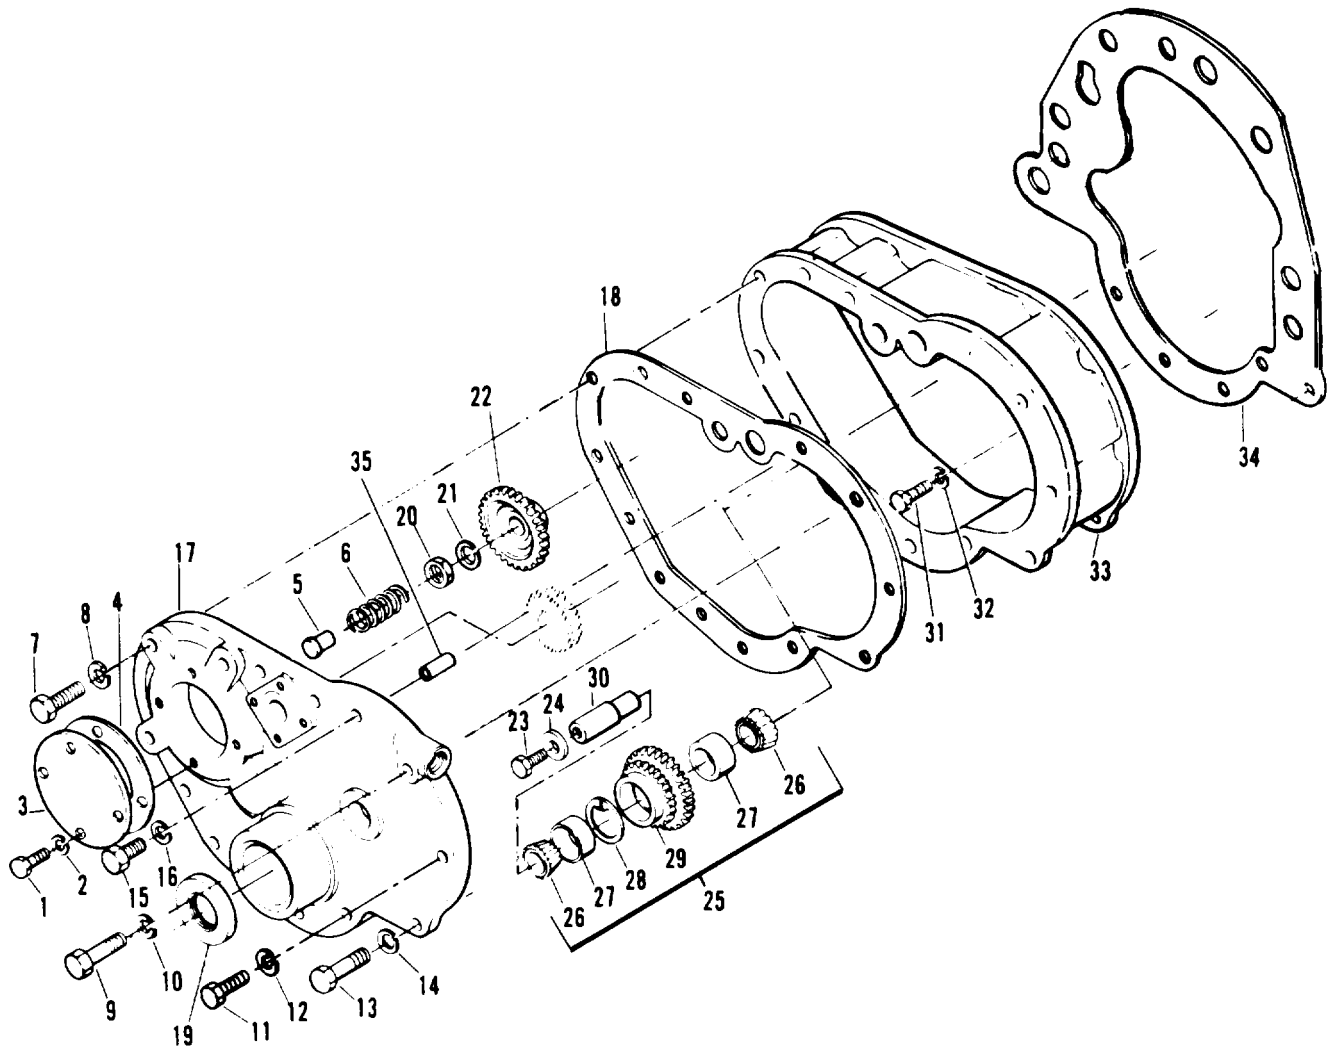

Figure 3-44. Timing Gears and Cover, Exploded View
- (1) Remove the hydraulic pump assembly (paragraph 3-41).
- (2) Remove the fuel injector nozzle from No. 1 cylinder.
- (3) Turn the engine over until the 20 degree before top dead center (BDC) mark on the engine flywheel is aligned with the timing mark on the flywheel housing and No. 1 cylinder is on compression stroke.
- (4) Remove the front engine support (paragraph 3-49).
- (5) Remove screws (1, figure 3-44) and lockwashers (2) to remove fuel pump thrust plate (3), gasket (4), thrust button (5) and spring (6). Discard gasket.
- (6) Remove screws (7, 9, 11, and 13), screws (15), and lockwashers (8, 10, 12, 14, and 16) to remove timing gear cover (17) and gasket (18). Discard gasket.
- (7) Press seal (19) from cover and discard.
- (8) Remove nut (20) and lockwasher (21) to remove fuel pump drive gear (22).
- (9) Remove screw (23) and washer (34) to remove idler assembly (25).
- (10) If inspection indicates that idler bearings must be replaced, disassemble idler as follows:
- (a) Remove bearings (26) and press races (27) from gear (29).
- (1) Using new gasket, install housing (33) and secure with lockwashers (32) and screws (31).
- (2) If shaft (30) was removed, press replacement into timing gear housing.
- (3) If bearings were replaced, assemble idler assembly as follows:
- (a) Install ring (28) into gear (29).
- (b) Press races (27) into gear until they seat against ring.
- (c) Install bearings (26).
- (4) Check that 20 degree (BDC) mark on flywheel is still aligned with timing mark on flywheel housing.
- (5) Install idler assembly and secure with washer (24) and screw (23). Torque idler shaft screw to 24-27 ft-lb.
- (6) Install fuel pump drive gear (22) insuring that the proper timing has been maintained (see paragraph 3-22). Secure gear with lockwasher (21) and nut (20). Torque drive gear nut to 35-40 ft-lb.
- (7) Press replacement seal (19, figure 3-44) into cover.